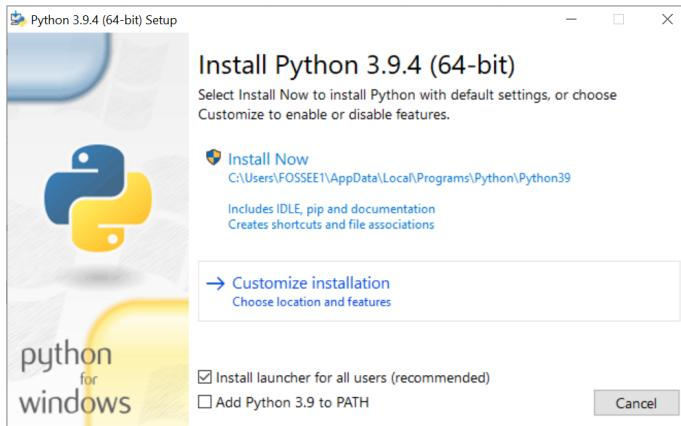

Figure 3.26: Installing Python 3 on Windows
2. Locate the executable file and double-click on it to begin the installation. Python 3.9.4 Setup window appears, as shown in Fig. 3.26. In this window, check the box which says, Add Python 3.9 to PATH and click on Install now.